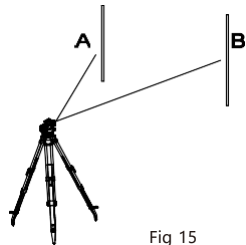

Fig 15
- (1) Direct instrument to staff A and turn Horizontal Circle to "0".
- (2) Point instrument to staff B
- (3) Read off Hz-angle from Horizontal Graduation Circle. Figure 15: Hz=43°